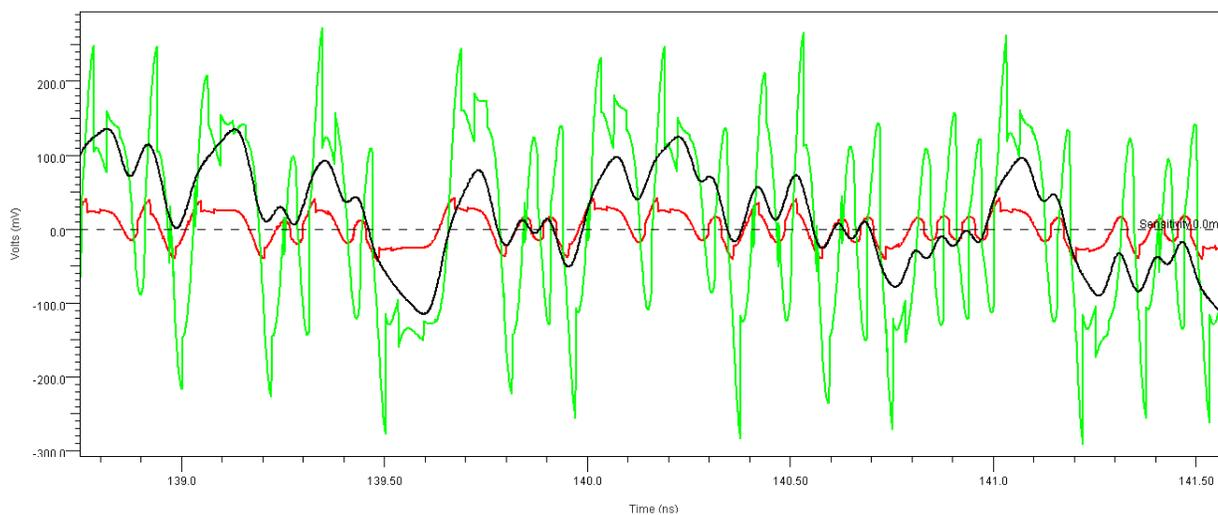

*Figure 19: Maximum IL Path Characteristics*
Per the many IL challenges described previously, Gen5 designs will typically be confronted with a variety of high-loss paths. Our highest loss paths involve multiple connections that cable to an AIC backplane. Figure 19 shows the simulated linear characteristics of this 35 dB IL (red) connection, agreeing with Table 1’s “AIC Cage” estimate of 36 dB for this type of path. While this connection has numerous discontinuities, the path is IL-dominant (i.e., IL is the primary challenge to solve) as RL (green/grey) stays well below 15 dB. The channel’s unequalized pulse response (blue) reveals significant spreading into neighboring UIs, with 1+ mV noise out to 10 pre-cursors and 40 post-cursors. Applying spec-level EQ (Tx=P8, Rx=3-tap\_DFE and CTLEs self-adapting), the equalized pulse response (gold) removes much of the ISI – at the expense of amplitude [17]. Challenging borderline cases such as this must be additionally analyzed using active analysis, as described in the next section.
While conformance to passive masks offers one Gen5 compliance metric, PCIe has asserted since Gen1 that eye diagrams represent a more reliable measure of system performance. As such, this section examines eye openings in our maximum IL channel shown in Figure 19, using both Gen5 reference Rx equalization (EQ) as contrasted with the EQ available in our component. Because most components provide EQ well-beyond spec requirements, the performance difference quantified here is typical of many scenarios.